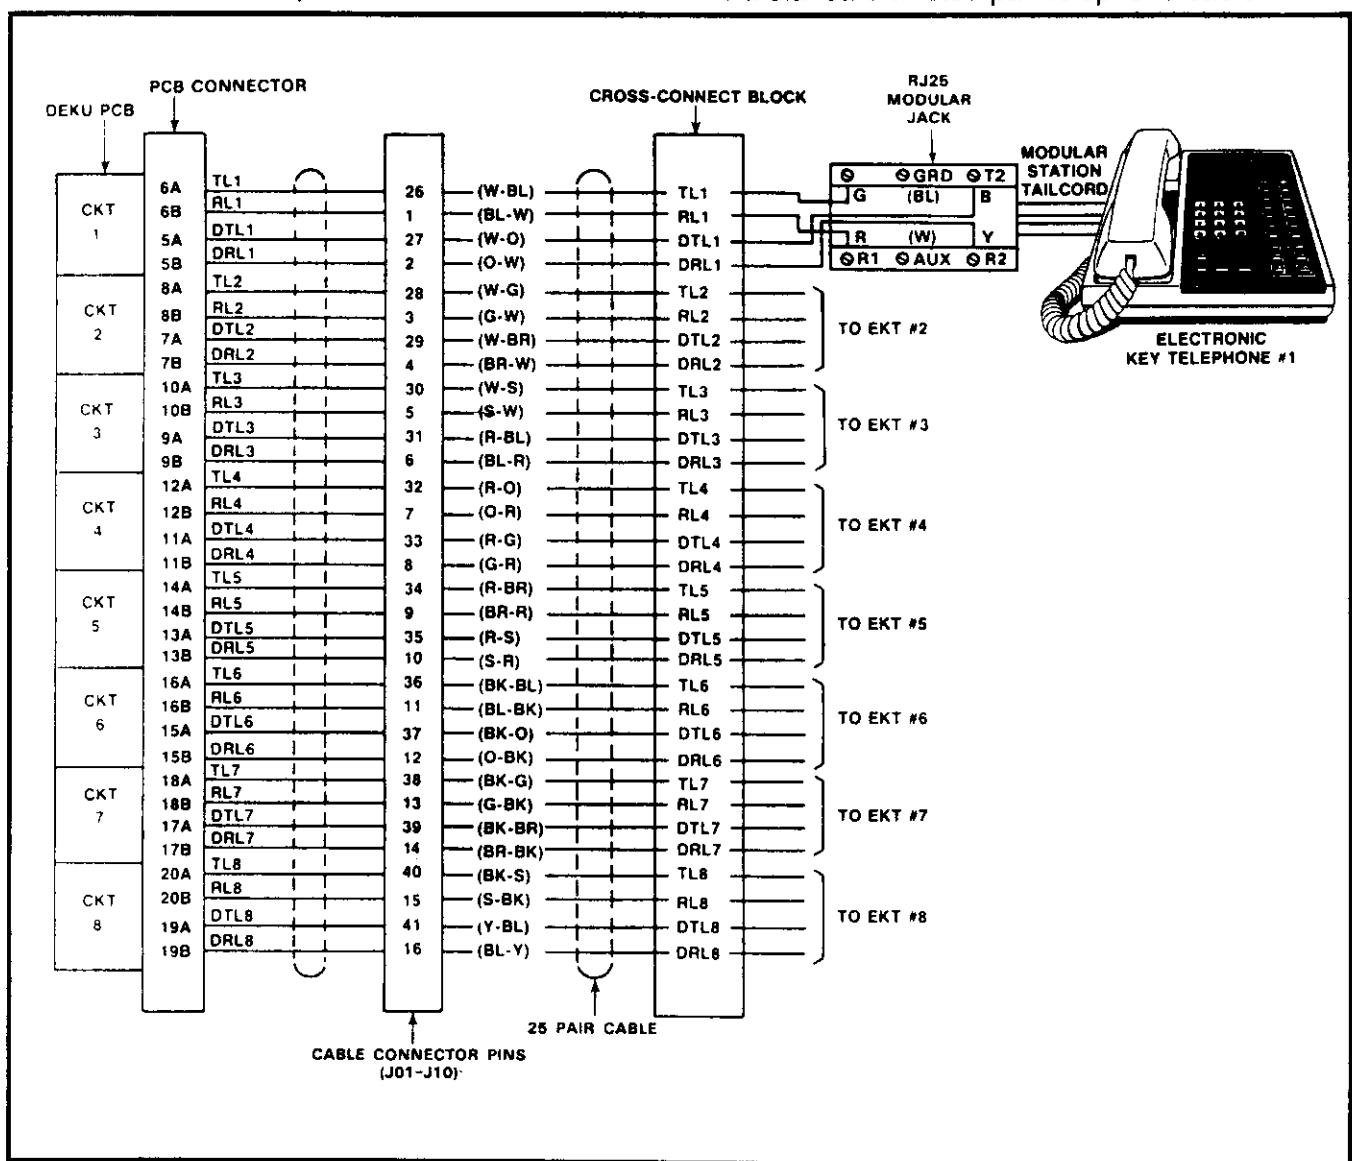

FIGURE 29—ELECTRONIC TELEPHONE CONNECTION
08.04 Electronic telephone connection details are shown in Figure 29.